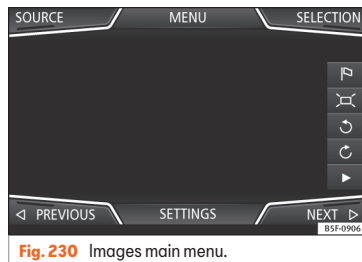

Fig. 230 Images main menu.
- Press the **SOURCE** »» **Fig. 230** function button and select the data storage device where the images are stored.